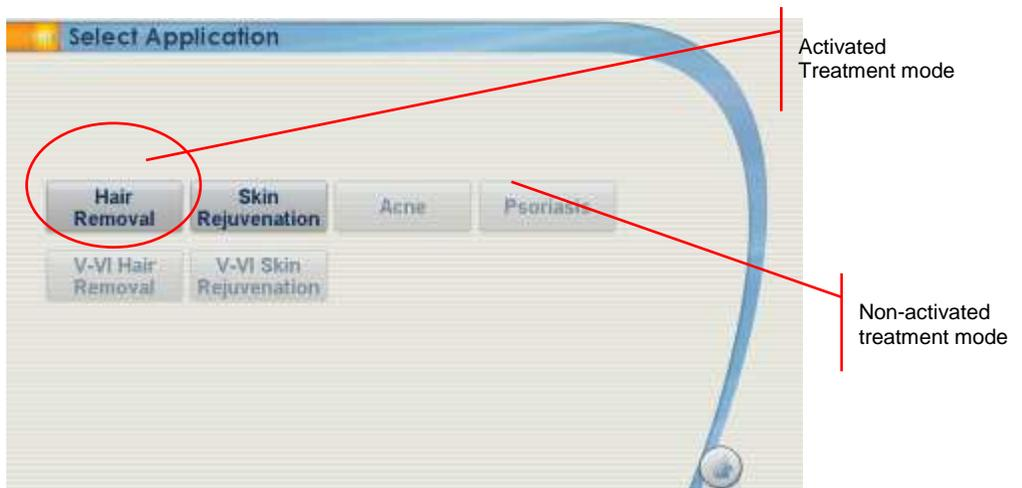

Figure 49: Select Application Screen
3. Only applications that are related to the attached handpieces will be accessible, all other applications will be greyed out. (Figure 49)